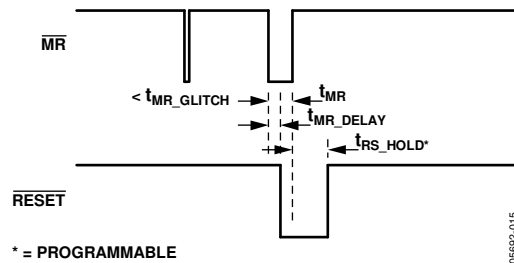

Figure 15. Manual Reset (\overline{MR}) Timing Diagram
The \overline{MR} and RESET timing diagrams are shown in Figure 15. Note that RESET is activated after t_{MR_DELAY} and is held for t_{RS_HOLD} after the \overline{MR} signal has gone high again.
- When $\overline{\text{MR}}$ is asserted (see Figure 15)